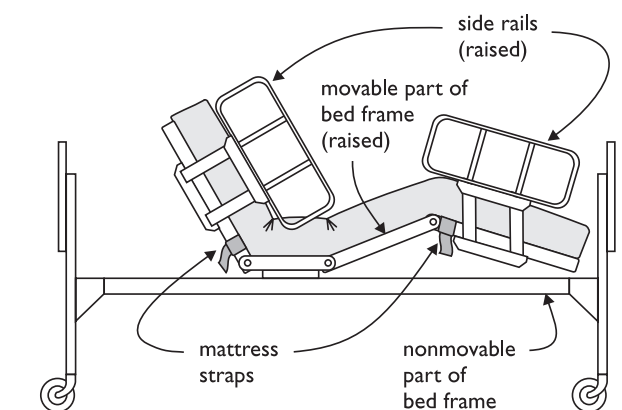

Figure 4—Securing straps to movable part of bed frame
2. Refer to figure 4 below. Before securing the mattress straps, raise the head and foot ends of the bed frame. Raise the side rails. Secure the mattress straps only to the movable part of the bed frame. Make sure the side rails can still move up and down without interference.